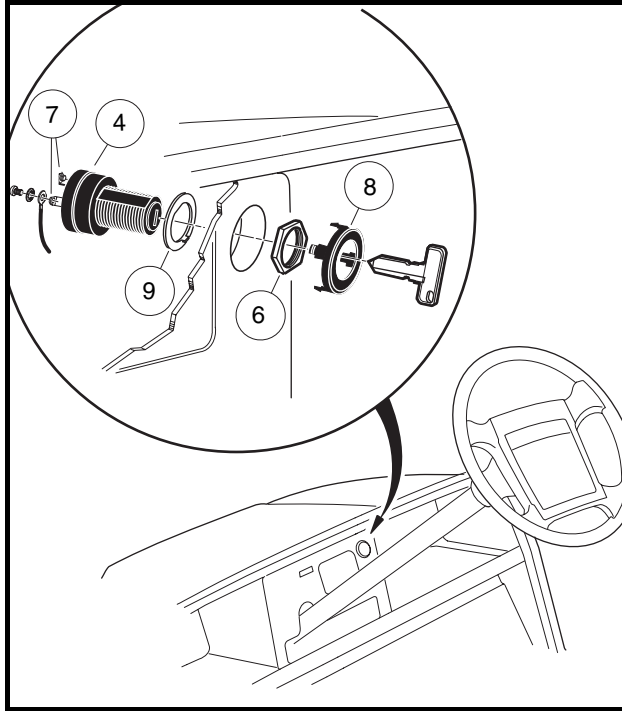

Figure 23-4 Key Switch – 850
6. From the back of the dash panel, push down on the retaining tabs surrounding the key switch (4) and remove the key switch cap (8). Hold the key switch and remove the switch retaining nut (6) from the outside of the dash panel (**Figure 23-4, Page 23-4**).
1. Position the key switch and flat washer (9) in the center dash, then install and tighten the switch retaining nut (6) to 40 in-lb (4.5 N·m). Install key switch cap (8) in center dash (**Figure 23-4, Page 23-4**).
3. Install center dash by reversing removal procedure. Make sure key switch terminals (7) do not touch frame and that the center dash panel is properly seated and snapped into place (**Figure 23-4, Page 23-4**).